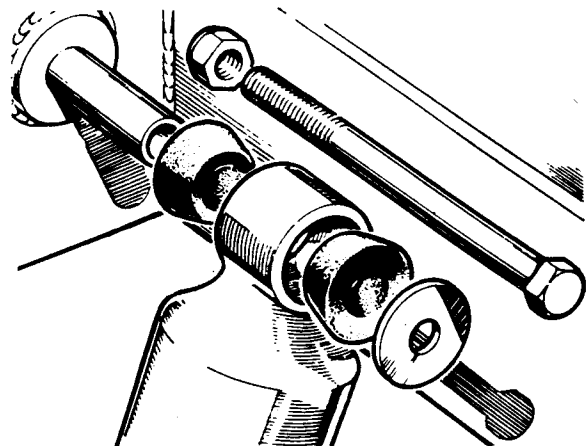

Fig J1.13
(4) Refer to Fig J1.13. Refit the shock absorbers and tighten the fixings.